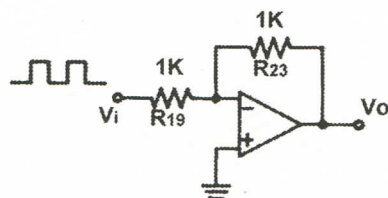

Fig 14-21 (c)
- (1) Insert the short-circuit clip by referring to Fig 14-21 (d) and the short-circuit clip arrangement diagram 23012-block d.4. Apply 1K Hz sine wave to the input terminal.
- (2) As indicated in Table (1), increase the input voltage from 50mVp-p to 200mVp-p, then view the output waveform, and make records.